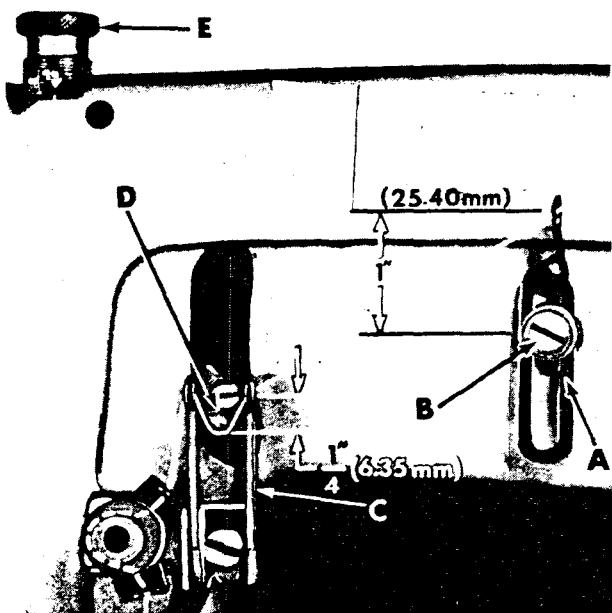

Fig. 17
Set the needle thread frame eyelet (A, Fig. 17) 1 inch (25.4 mm) above the center of the mounting screw (B).
The "U" shaped eyelet (C, Fig. 17) should be set to allow the spreader thread to engage the bottom of the needle lever eyelet (D) by $\frac{1}{4}$ inch (6.35 mm). Raising the eyelet makes a looser cover thread, lowering same makes a tighter cover thread.
Regulate the presser spring regulating screw (E, Fig. 17) so that it exerts only enough pressure on the presser foot to feed the work uniformly when a slight tension is placed on the fabric. This is the knurled screw, located directly behind the needle bar in the head of the machine. Turning it clockwise increases the pressure, counterclockwise acts the reverse.